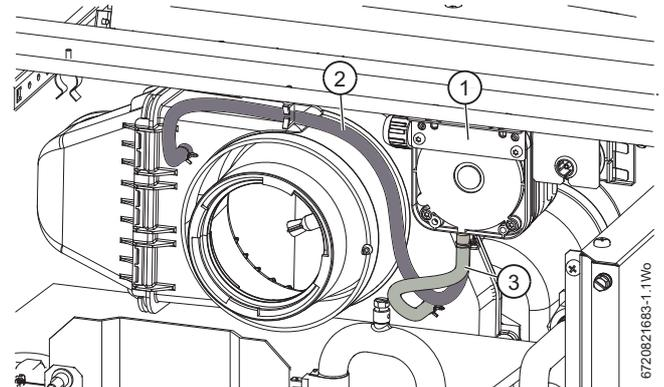

Fig. 96 Sensing tube connections
- ▶ Ensure that the sensing tubes are connected correctly, refer to figure 96